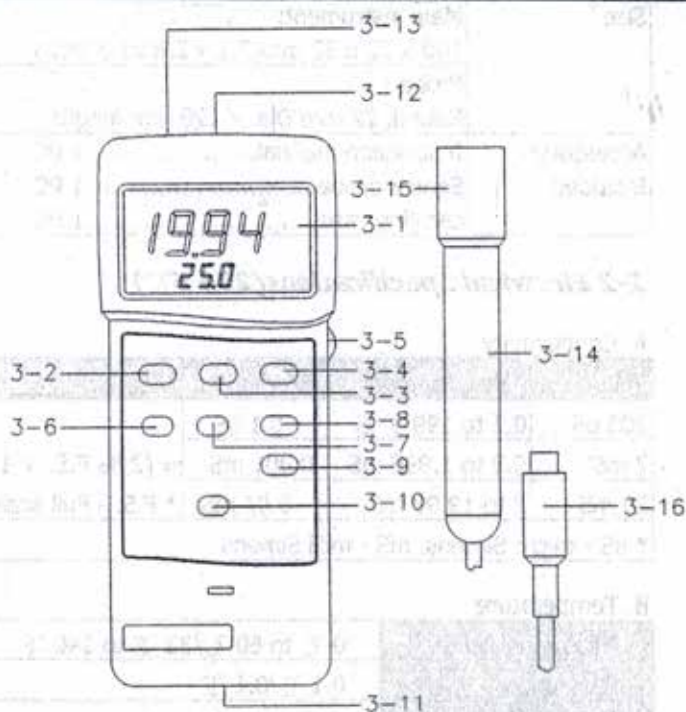

Fig. 1
- (1) Push the "Power Off/On Button"(3-2, Fig. 1) to power the instrument.
- (2) The instrument will default to 2% per °C Temperature Compensation factor. The meter has built-in Automatic Temperature Compensation adjustable between 0 to 5% per °C.
- a. Push the "Temp. Compensation Button"(3-10, Fig.1) ,the display will show
- b. Push the "Factor Adjust Button"(3-8, Fig. 1) to select the desired compensation factor. The value will increment in steps of 0.1 % per °C.
- c. Once the desired value is reached, push the "Temp. Compensation Button"(3-10, Fig. 1) to set the new value.
- (3) Select the applicable range, using the "Range Select Button"(3-9, Fig. 1).
(4) Immerse the "Conductivity Electrode "(3-15, Fig. 1) into the solution, up to the immersion level.
(5) During the measurement, the lower LCD Display will show the temperature of the solution.
** Push the "C/°F Button"(3-4, Fig. 1) to change the temperature display unit from "C to °F" or "°F to C".*
- * During measurement, pushing the "Data Hold Button"(3-3, Fig. 1) will hold the display values & the LCD will show the "D.H" symbol.
- * The DATA RECORD function displays the maximum, minimum and average readings. To start the DATA RECORD function, press the "Record Button"(3-6, Fig. 1) once. "REC" symbol will appear on the LCD display.
- (a) Push the "CALL Button"(3-7, Fig. 1) once, then the "Max" symbol with the maximum values recorded will appear on the LCD display.
- (d) To de-activate the Data Record function, Press the "Record Button" (3-6, Fig. 1) once again. All associated annunciators will disappear from the display.
To de-activate this feature, Select the memory record function during measurement, by pressing the "RECORD" button(3-6, Fig.1).
This is achieved by controlling the "LCD Contrast Adjust" pot (3-5, fig. 1).
- (1) Prepare a " 1.413 mS Calibration Solution ".
- (2) Slide the " Range Select Switch "(3-9, Fig. 1) to "2 mS" position.
- (3) Immerse the " Conductivity Electrode "(3-5, Fig. 1) into the solution up to the immersion level.
The instrument features an RS232 output via 3.5 mm Terminal (3-13, Fig. 1).
- (1) When the left corner of LCD display show "LBT", it is necessary to replace the battery. However, in-spec measurement may still be made for several hours after low battery indicator appears before the instrument become inaccurate.
- (2) Slide the Battery Cover(3-11, Fig. 1) away from the instrument and remove the battery.
- (3) Install a 9V battery(heavy duty type) and replace the